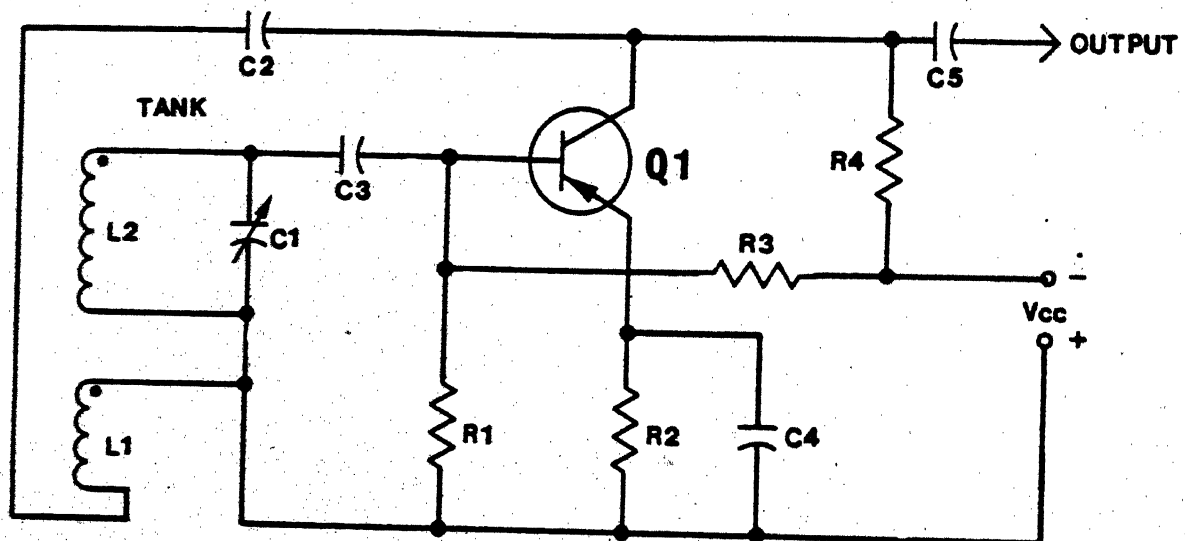

Figure 1
1. The purpose of L1 in Figure 1 is to
2. In figure 1, which component can be used to change the frequency of oscillation?